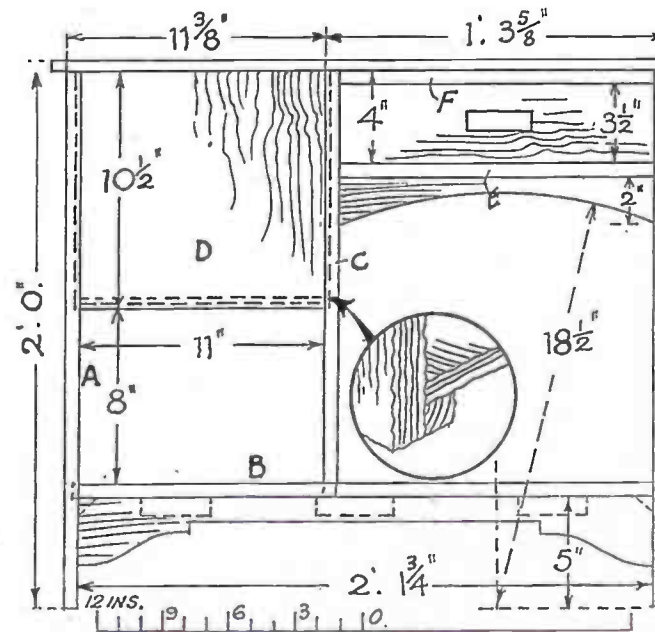

Fig. 2
two parts (D) and that tenons are cut along the bottom to fit into the mortises cut in floor (B). There are two stiffening rails, one long one to go under the edge of the floor (B) to which it is counter-sunk screwed and glue-blocked as shown in Fig. 2. The second stiffener is under the rail (E), and its shaping can be determined by the radius line of 18 1/2 ins. shown. The detail Fig. 4 shows how all